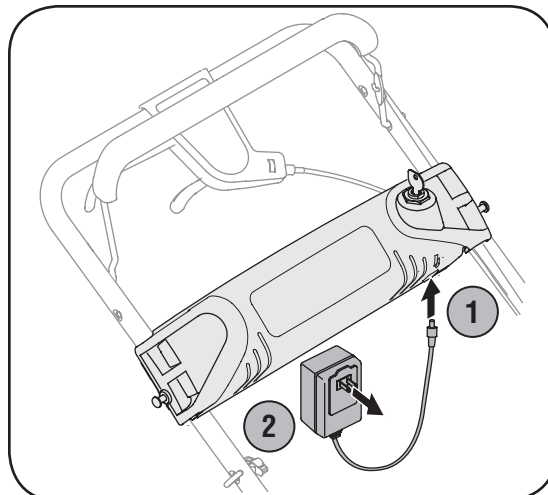

Figure 5-15: Plug charger into battery lead (1) and then plug charger pack into 120 volt standard household outlet (2).
1. Plug the battery charger into the port on the underside of the battery housing. See Figure 5-15.
2. Insert the battery charger plug into a standard 120 volt household outlet. See Figure 5-15. Charge battery for 8 to 10 hours before initial use. **Do not charge longer than 12 hours.** The battery should only need to be charged upon initial setup and after any other extended periods of non-use.